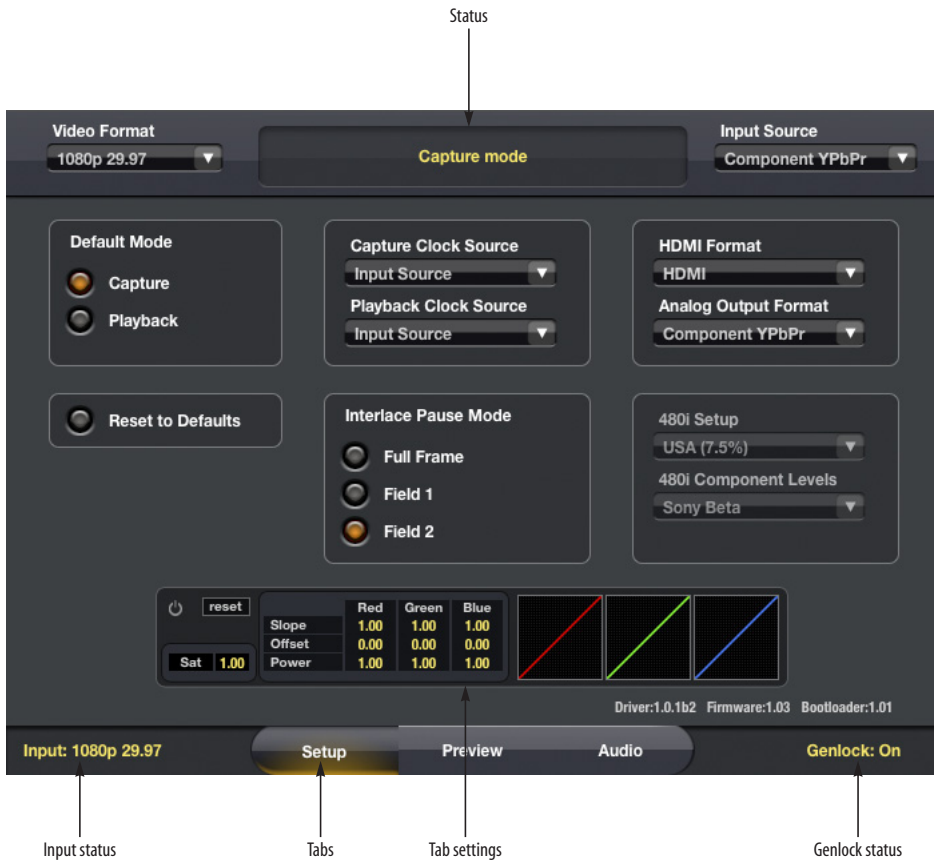
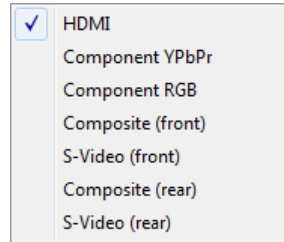
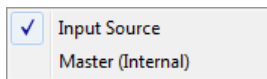
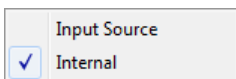

Figure 6-1: MOTU Video console.
Figure 6-3: The Input Source menu.
Figure 6-5: Capture Clock Source menu.
Figure 6-6: Playback Clock Source menu.
The current mode is clearly indicated by the Status area in MOTU Video Console (Figure 6-1 on page 29), unless there is no genlock, in which case it will display a message explaining why not.
- You run the MOTU Video console software and click the Preview tab (Figure 6-1 on page 29, Figure 6-9 on page 34). This causes MOTU Video console to “take over” the video signal being supplied by the HD Express and display it in the preview window.
MOTU Video Console (Figure 6-1) is accessed via the Windows Start menu and provides convenient access to all HD Express settings from your computer desktop.
The *Video Format* setting (Figure 6-1 on page 29) shows the format in which the HD Express is capturing or playing back video, and allows you to change the format manually. When capturing or playing video from Premiere Pro, this setting will be changed automatically by the host application.
The *Input Source* menu (Figure 6-1) is important because this is where you choose the video input from which the HD Express will capture. This input may also be used as the clock source for playback (see “Playback Clock Source” on page 32).
The menu choices with *front* or *rear* in their names (Figure 6-3) refer to the video inputs on the front panel of the HD Express or the RCA video input connectors on the rear panel.
The Status area (Figure 6-1) displays what mode the HD Express is in. It also provides helpful status information and troubleshooting suggestions. For example, if there is no video signal because of a wrong setting, the Status area will tell you which setting(s) to check.
The *Input Status* (Figure 6-1) indicates the video format detected on the currently chosen video Input Source.
The *Genlock Status* (Figure 6-1) indicates when the HD Express has successfully achieved lockup to the currently selected clock source, which could be the HD Express's internal clock or the current video input source.
As explained in chapter 5, “HD Express Basics” (page 27), HD Express has two modes of operation: *Capture* and *Playback*. Your host video software determines the mode, depending on what you are doing (i.e. capturing or playing back the timeline). The *Default Mode* setting (Figure 6-1) lets you choose which mode the HD Express enters when the host relinquishes control over the HD Express hardware, such as when you quit or switch out of your host software. If you spend most of your time just monitoring or just capturing, operation will be faster if you set this to the mode you expect to use most.
The *Capture Clock Source* setting (Figure 6-4) lets you specify the timing reference for the HD Express when it is in Capture mode. Two choices are provided in the menu, as shown below in Figure 6-5:
Choose *Input Source* (Figure 6-5) when you wish to resolve the HD Express to the video signal being received on the currently chosen input in the *Input Source* menu (Figure 6-3).
Choose *Master (Internal)* (Figure 6-5) to make the HD Express resolve to its own internal clock when capturing from a device (such as a deck) that is resolved to the HD Express's output. Because the deck is resolved to the HD Express, the video signal being captured from the deck is genlocked.
The *Playback Clock Source* setting (Figure 6-1) lets you specify the timing reference for the HD Express when it is in Playback mode. Two choices are provided in the menu, as shown in Figure 6-6:
Choose *Input Source* (Figure 6-6) when you wish to resolve the HD Express to the video signal being received on the currently chosen input in the *Input Source* menu (Figure 6-3) during playback.
Choose *Internal* (Figure 6-6) when you wish to resolve the HD Express to its own internal clock during playback.
The *Preview* tab (Figure 6-9) lets you preview the video signal being received from the currently selected input in the Input Source menu (Figure 6-3 on page 30).
If you have trouble getting the source video signal to appear in the preview frame, make sure the Final Cut Pro Capture window isn't open in the background. If so, the Status area (Figure 6-1 on page 29) will alert you to the fact that the host application is currently capturing or previewing.